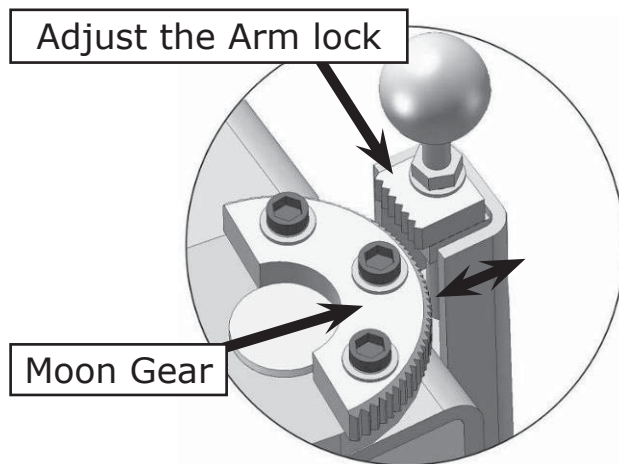

Fig. 24
3. Adjust the arm lock in the direction of the arrow (See Fig. 24)